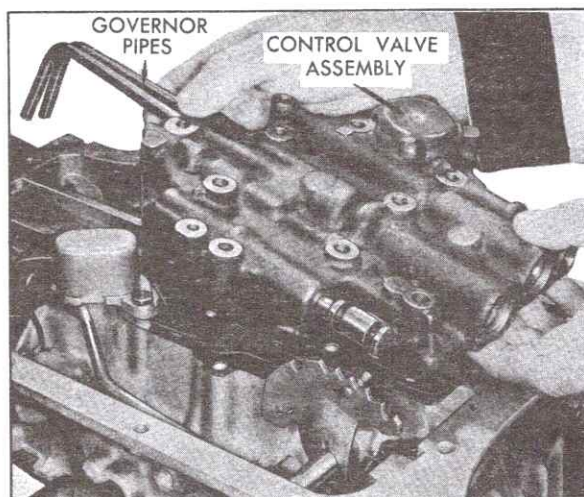

Fig. 7-34 Removing Control Valve Assembly
3. Remove control valve assembly with the two governor pipes attached, Fig. 7-34.